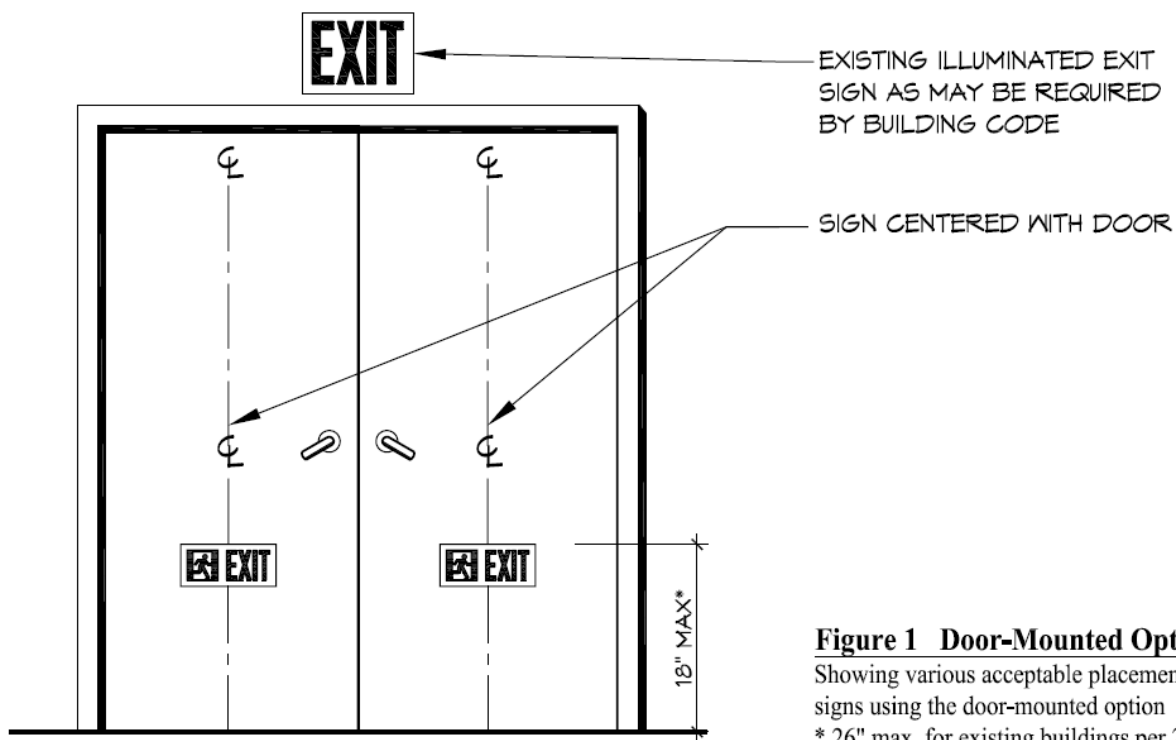

Figure 1 Door-Mounted Option (2.1.1.1)
2.1.1.1 Door-mounted option (fig. 1). The vertical centerline of the sign shall be centered with the door, or shall be in that half of the door, either the right or left, that contains the latch. In case of double-doors, both doors shall be marked and the signs shall be centered with the doors. For door-mounted signs, arrows may be omitted.